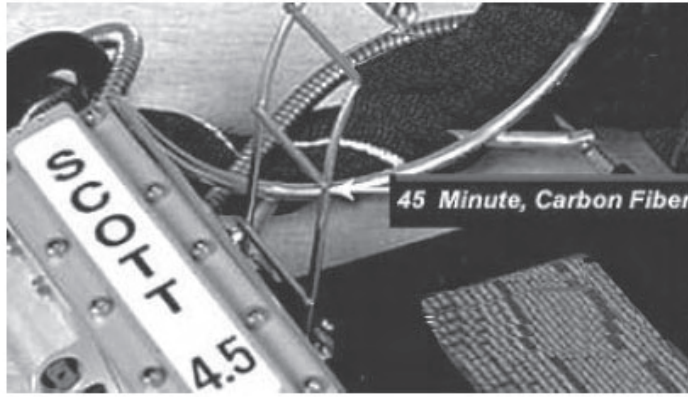

Figure 2-23. Cylinder Band Clamp Bail Positions
- (3) Position the cylinder band clamp (figure 2-1, item 1) on the bail for the cylinder in the middle position for the 45-minute carbon-fiber cylinder (see figure 2-23).